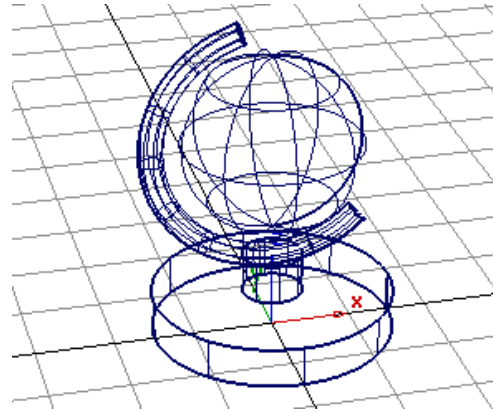

Figure 2-108 Globe created after scaling the sphere
2. Enter **225** in the promptline and press ENTER; the globe is scaled uniformly along the X, Y, and Z axes, as shown in Figure 2-108.